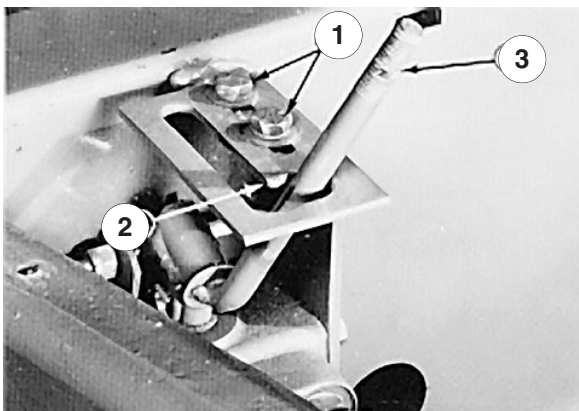

Figure 48
3. Loosen the two capscrews on the top of the lift lever latch (Fig. 48). Place the lever on rounded tip of the latch (Fig. 48), and slide the latch w/the lever forward until you feel stopping resistance. Then tighten the capscrews to lock the latch in place. Check for free operation of the lift lever by moving the lever from RAISE or TRANSPORT to FLOAT. The lift lever should just clear the rounded position of the latch as you move the lever into the FLOAT position.